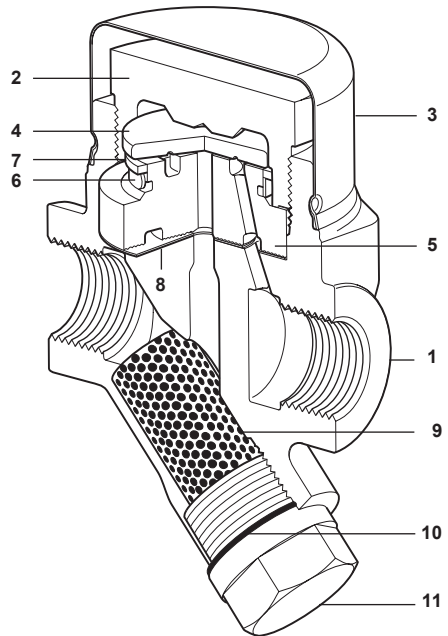

Fig. 7 TDC46M and TDS46M screwed
- Access to the strainer screen can be obtained by removing the strainer cap (11).
- Remove the strainer screen (9) and gasket (10).
- Fit a new or cleaned strainer screen into the recess of the strainer cap (11 supplied with the retrofit kit) before fitting the BDV1 or BDV2 blowdown valve - See Figures 7 and 8 for product familiarisation of the **BDV1** and **BDV2** blowdown valves.
- A new gasket (10) must always be fitted when reassembling the unit and tightened to the recommended torque (see Table 1, item 11 - Strainer cap).